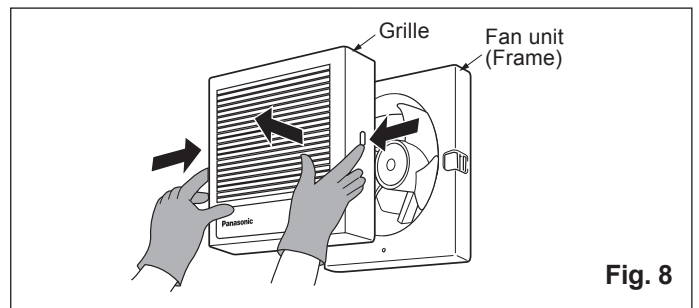

Fig. 8
10. Remove the grille from the fan unit. Press the spring locks on the sides and pull the grille back. (Fig. 8)
12. Remove the grille from the fan unit. (Fig. 8 on page 6)